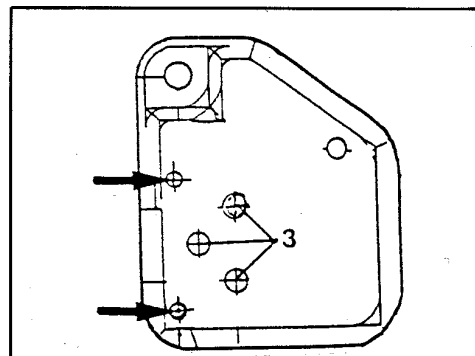

Figure 4
4. Insert the new door stopper mounting bracket no. 661 730 48 14, into the door, and tighten it to the panel with the two 5.0mm screws. (Figure 4 arrows, tightening torque 8.0 Nm)
Reinstall sealing foil and cut holes into the foil for the 3 additional stopper screws. (see Figure 4, no. 3 = 10.0 mm bores)